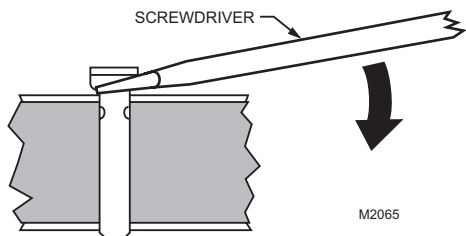
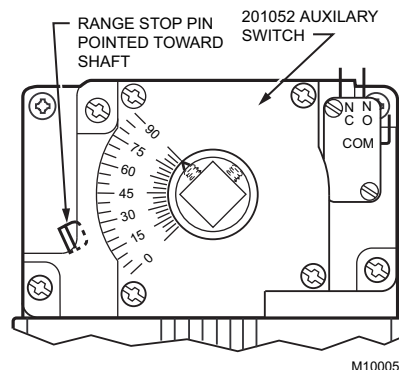

Fig. 8. Lifting a range stop pin out of its slot.
Fig. 10. 201052 Auxiliary Switch mounted on W7751J.
When a range stop pin is used with a field-added auxiliary switch, the tab on top of the range stop pin must point inward toward the VAV damper box shaft. See Fig. 10. This allows clearance for the auxiliary switch housing. To remove the pin, pry it up with a flathead screwdriver. See Fig. 8.
The 201052A,B,C Auxiliary Switch can be used with the W7751J. It allows for control of equipment external to the actuator (for example, electric reheat coils or fan) at an adjustable point in the stroke (from 0 to 90 degrees) of the actuator. The 201052 Switch is field-added. Self-tapping Phillips head screws are included with the switch. The switch can be mounted only one way (see Fig. 10) with the switch contacts pointed to the top of the actuator.
- If a range stop pin is used, it must be pointing inward toward the shaft (see Fig. 10) to allow clearance for the auxiliary switch.